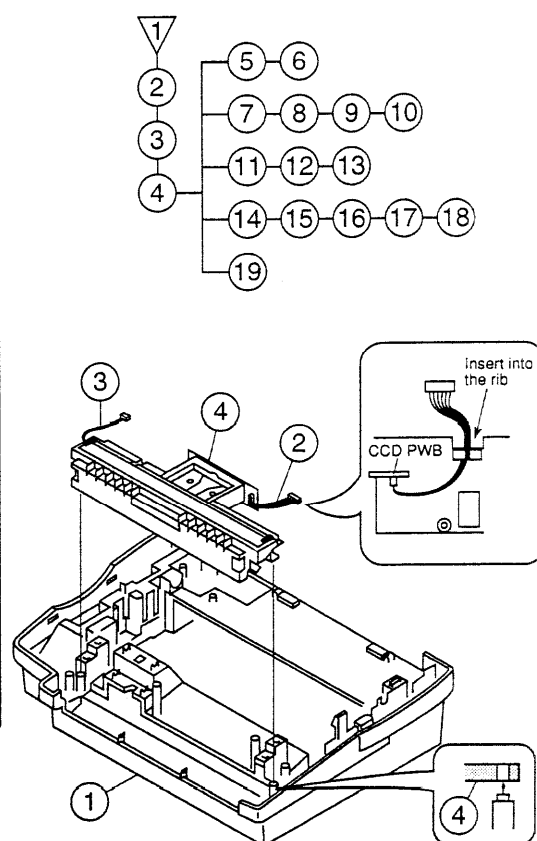

Fig. 6
Parts list (Fig. 6)
- When assembling ① mirrors ⑬ and in Fig. 6, note the following items:
- Check that the mirrors are free from dust, finger prints, and dirt. The mirror surface (vaporized surface) should face in the arrow direction in Fig. 6.
- Insert mirror holding springs ⑮ and ⑯ securely, and apply screw lock to positions ④ (each two positions on the right and the left).
- When assembling scanning glass ⑪ in Fig. 6, note the following items: